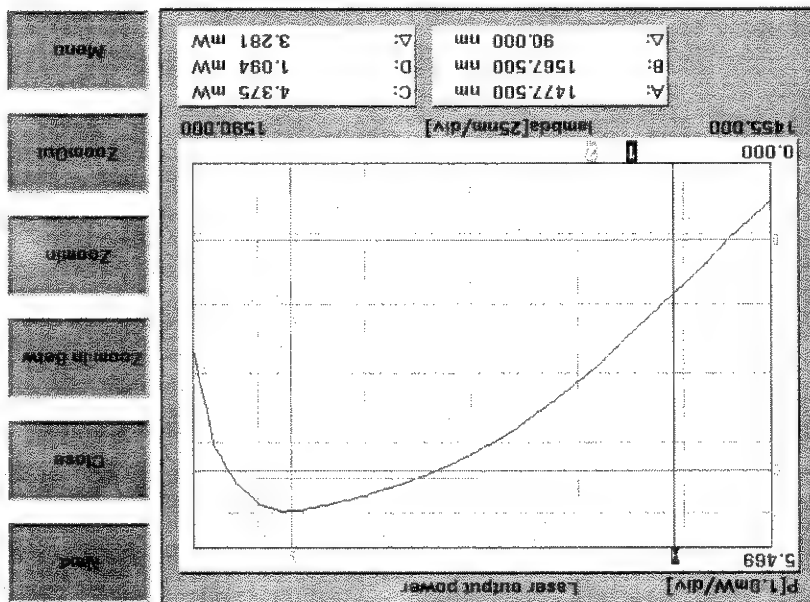

Figure 140 The Pmax Curve Screen
- 2 Move to *<Pmax curve>* and press *Enter*. The Pmax Curve Screen, as shown in Figure 140, appears.